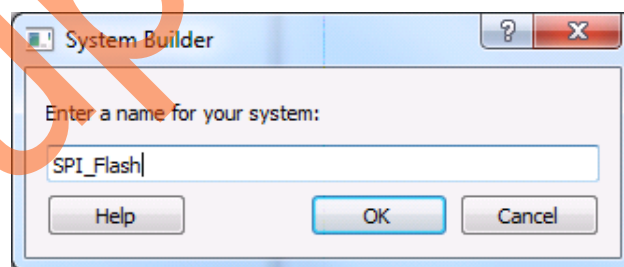

**Figure 6 • Design Template Window**
7. Click **Next**. The **Design Template** page is displayed, as shown in Figure 6. Under Design Templates and Creators, click **Create a system builder based design**.